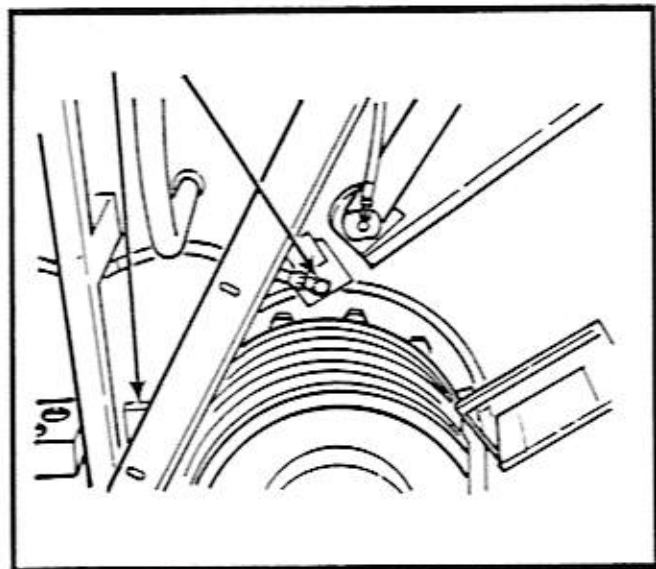

Figure 12-1. Cutter Drum Planetary Plugs
1. Position the machine on level ground, apply the Parking Brakes, chock the tracks and remove the two (2) plugs from the planetary. Gain access to the plugs by removing the two water nozzles on the left side of the machine. One nozzle is behind the steps, the other is behind the cutter drum belt cover. Refer to Figure 12-1.